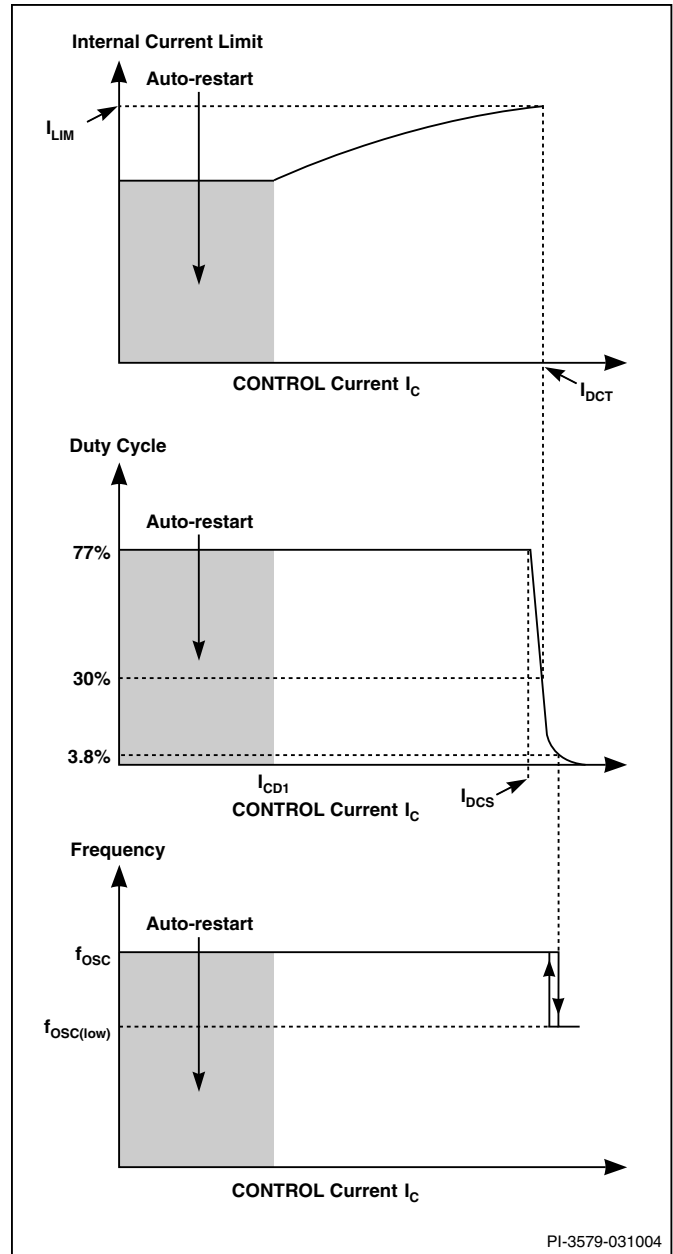
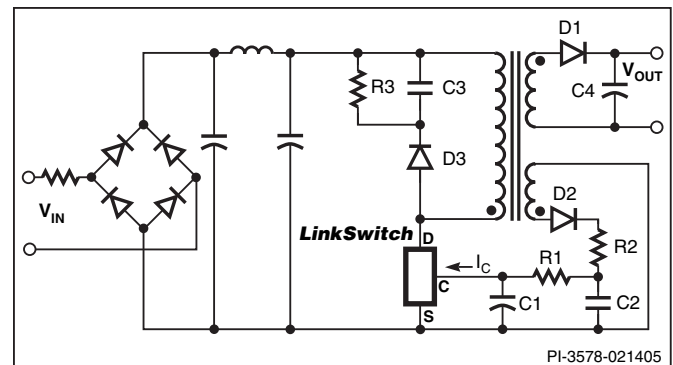
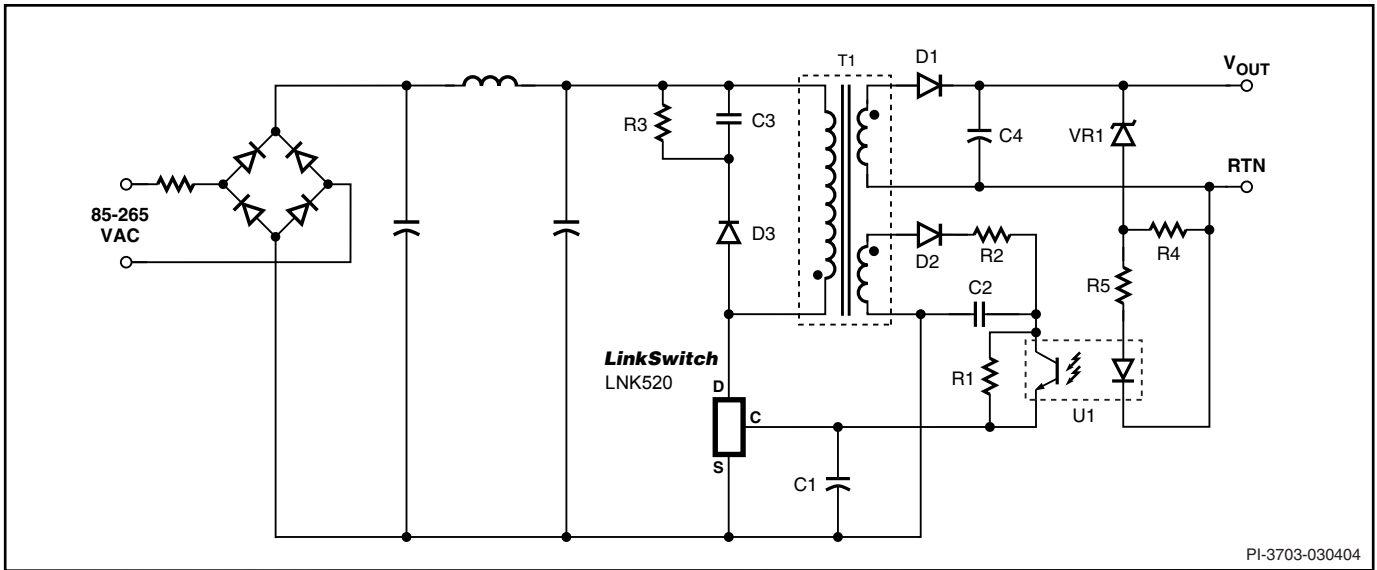

Figure 4. CONTROL Characteristics.
Figure 5. Power Supply Schematic outline.
Figure 6. Power Supply Schematic Outline with Optocoupler Feedback, Providing Tight CV Regulation.
The duty cycle, current limit and operating frequency relationships with CONTROL pin current are shown in Figure 4. Figure 5 shows a typical power supply schematic outline which is used below to describe the *LinkSwitch* operation.
During power up, as  $V_{IN}$  is first applied (Figure 5), the CONTROL pin capacitor C1 is charged through a switched high voltage current source connected internally between the DRAIN and CONTROL pins (see Figure 2). When the CONTROL pin voltage reaches approximately 5.6 V relative to the SOURCE pin, the high voltage current source is turned off, the internal control circuitry is activated and the high voltage internal MOSFET starts to switch. At this point, the charge stored on C1 is used to supply the internal consumption of the chip.
As the output voltage, and therefore the reflected voltage across the transformer bias winding ramp up, the feedback CONTROL current  $I_C$  flowing through R1 increases. As shown in Figure 4, the internal current limit increases with  $I_C$  and reaches  $I_{LIM}$  when  $I_C$  is equal to  $I_{DCT}$ . The internal current limit vs.  $I_C$  characteristic is designed to provide an approximately constant power supply output current as the power supply output voltage rises.
When  $I_C$  exceeds  $I_{DCS}$ , typically 2 mA (Figure 4), the maximum duty cycle is reduced. At a value of  $I_C$  that depends on power supply input voltage, the duty cycle control limits *LinkSwitch* peak current below the internal current limit value. At this point the power supply transitions from CC to CV operation. With minimum input voltage in a typical universal input design, this transition occurs at approximately 30% duty cycle. Resistor R1 (Figure 5) is therefore initially selected to conduct a value of  $I_C$  approximately equal to  $I_{DCT}$  when  $V_{OUT}$  is at the desired value at the minimum power supply input voltage. The final choice of R1 is made when the rest of the circuit design is complete. When the duty cycle drops below approximately 4%, the frequency is reduced, which reduces energy consumption under light load conditions.
Figure 6 shows a typical power supply schematic outline using *LinkSwitch* with optocoupler feedback to improve output voltage regulation. On the primary side, the schematic only differs from Figure 5 by the addition of optocoupler U1 transistor in parallel to R1.
When the power supply operates in the constant current (CC) region, for example at start up and when charging a battery, the output voltage is below the voltage feedback threshold defined by U1 and VR1 and the optocoupler is fully off. In this region, the circuit behaves exactly as previously described with reference to Figure 5 where the voltage across C2 and therefore the current flowing through R1 increases with increasing output voltage and the *LinkSwitch* internal current limit is adjusted to provide an approximate CC output characteristic.
When the output reaches the voltage feedback threshold set by U1 and VR1, the optocoupler turns on. Any further increase in the power supply output voltage results in the U1 transistor current increasing. The resulting increase in the *LinkSwitch* CONTROL current reduces the duty cycle according to Figure 4 and therefore, maintains the output voltage regulation.
At very light or no-load, typically less than 2 mA of output current, the output voltage rises due to leakage inductance peak charging of the secondary. This voltage rise can be reduced with a small preload with little change to no-load power consumption. The output voltage load variation can be improved across the whole load range by adding an optocoupler and secondary reference (Figure 6). The secondary reference is designed to only provide feedback above the normal peak power point voltage to maintain the correct constant current characteristic.